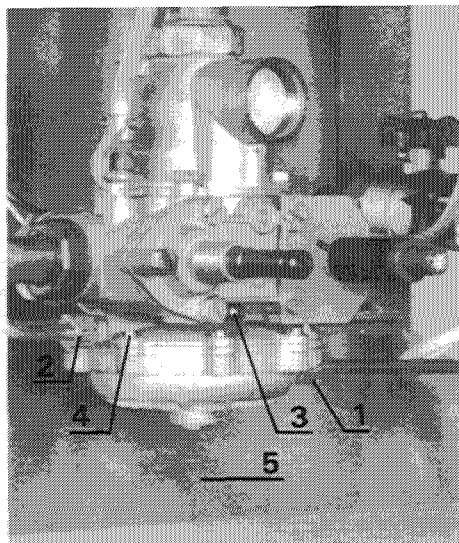

Fig. 29
NOTE – For removal of centre and upper water section, it may help to remove the flue access plate which is retained by two screws (1, fig. 20) to facilitate removal of the water section – upon replacement ensure access plate (5, fig. 29) is located by centre fixing clip.
- a) Undo high (1, fig. 29) and low (2, fig. 29) pressure union nuts using 13 mm spanner.
- b) Slacken the centre and right hand grub screws (3, fig. 29) retaining water section to gas section.
- d) Remove eight fixing screws (4, fig. 29) holding top to bottom half of water section.